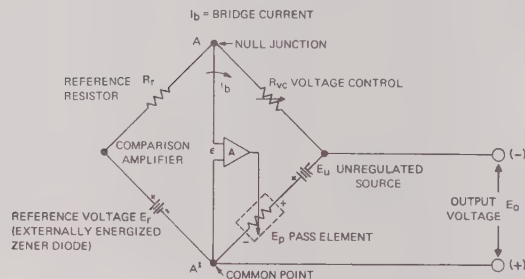

FIG. 3-3 KEPKO POWER SUPPLY AND COMPARISON BRIDGE CIRCUIT
3-8 INTRODUCTION TO REMOTE PROGRAMMING (Refer to FIG. 3-3)
3-9 A few general remarks may be in order to familiarize the user of this equipment with the terminology and basic equations pertaining to remote programming of the Kepco PCX and PCX-MAT Power Supplies. Electrically, the power supply consists of the unregulated DC source (E_U) the pass element (E_P), the DC error amplifier (A) and a comparison circuit which resembles a four-arm electrical bridge. (Refer to FIG. 3-3). The elements of the bridge are arranged to produce a virtual zero at the amplifier input when the bridge circuit is at balance ($V_{AA'}=0$). Any tendency for the output voltage to change in relation to the reference voltage (R_r) creates an error signal which, by means of negative feedback and the amplifier, tends to correct the output voltage towards restoration of bridge balance.